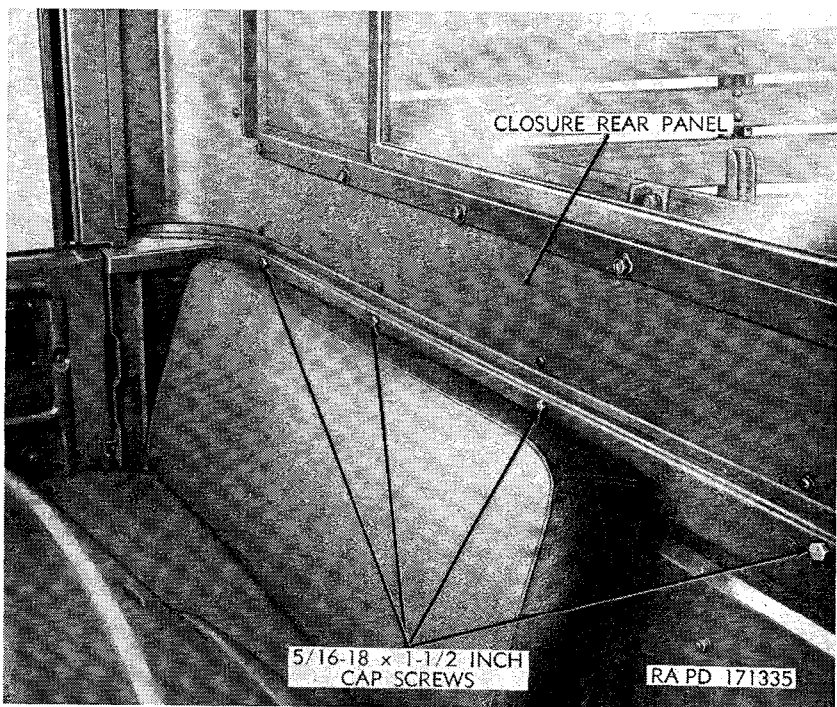

Figure 7. Right rear interior view of hard-top closure installed.
d. Using the five holes across the lower part of the closure rear panel as a template, drill five $\frac{3}{8}$ -inch holes through the lower body panel (fig. 9). Install five $\frac{5}{16}$ -inch cap screws in these holes so that the heads remain inside the cab (fig. 7). Install five lock washers and nuts.